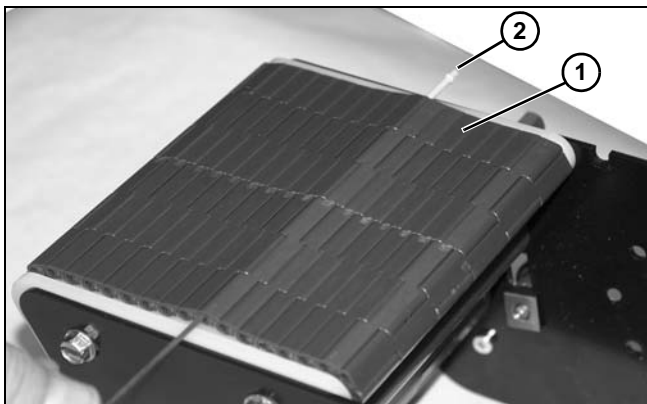

Figure 122
14. Lift slightly on belt (**Figure 122, item 1**) and push pin (**Figure 122, item 2**) out of belt.